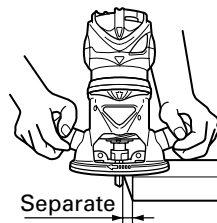

Fig. 15
- (1) The bit must be kept clear of the materials which are to be cut, when the power is being turned on. (Fig. 15)
- (2) Then turn the tool on and wait until the bit attains full speed.